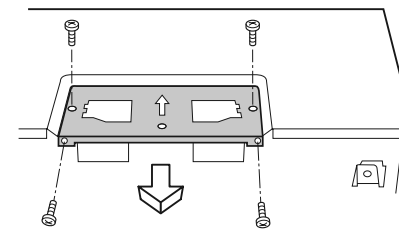

Figure 7
- Remove and save the 4 screws from Fan Cover Bracket. Remove Fan Cover Bracket by sliding it in the opposite direction of the arrow on the Fan Cover Bracket, as shown in Figure 7.